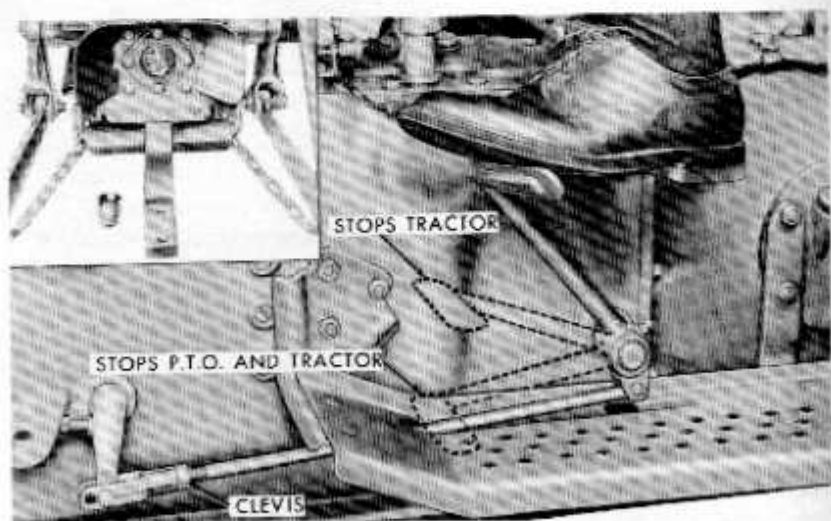

Figure 17
The Model 961 Ford Tractor is equipped with a live PTO clutch. To stop the forward motion of the tractor when operating with PTO driven equipment, depress the clutch pedal about half way as shown in Figure 17. To stop both the forward motion of the tractor and the operation of the implement, depress the clutch pedal all the way, as shown.
When desired, the live PTO clutch may be disengaged and the pedal set for normal, single clutch operation by repositioning the pin in the front hole of the clevis as shown in Figure 17. For further information on clutch adjustments, see page 51 under MECHANICAL MAINTENANCE.
**Power Take-Off Shaft:** Your Ford Tractor is equipped with a standard P.T.O. shaft ( $1\frac{3}{8}$ " diameter) in accordance with A.S.A.E. specifications. When attaching P.T.O. driven equipment (built to A.S.A.E. standards) to your tractor, it is not necessary to use special adaptors or extensions. However, a P.T.O. shield shown installed, see insert Figure 17 is available as extra equipment from your Ford Tractor and Implement Dealer. This shield should be used as a safety factor and serves as the supporting member for pull-type implement drive line shields in all operations involving P.T.O. driven implements.